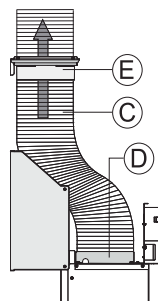

Fig. 12
- b. If using the extractor to extract out through the ceiling, pry of the vent cover as in fig, fit and secure it to the wall using the remaining screws and then assemble the vent pipe as shown in fig 12